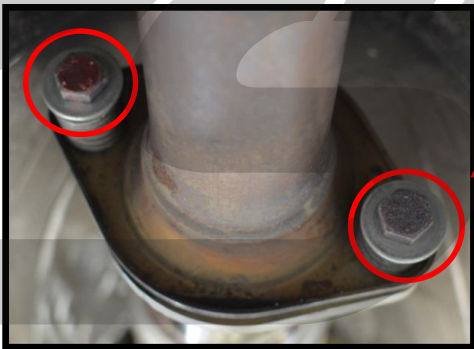

Figure 6d
- d) Remove the two 17mm (14mm for OEM) bolts between the downpipe and the catback exhaust (CBE), circled in red in Figure 6d. (If applicable) Remove the 17mm (14mm for OEM) bolts between the race pipe and upper downpipe.